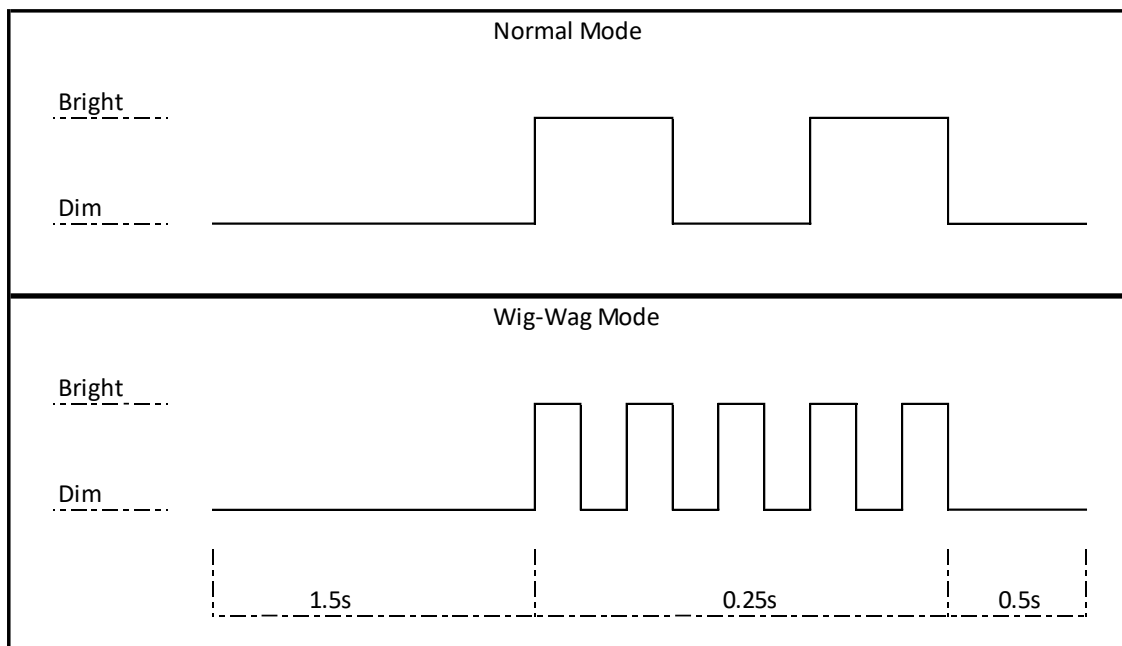

Figure 3 – Differences in Confirmation Flashes between Normal Mode and Wig-Wag Mode
- The K30 will display one of the confirmation flashes as shown in Figure 3 to indicate it is entering the Flash Pattern Selection mode
- The K30 will display the Normal Mode confirmation flash as shown in Figure 3
- The K30 will display the Wig-Wag Mode confirmation flash as shown in Figure 3
Figure 3 illustrates the difference in the confirmation flash between Normal Mode and Wig-Wag mode – not drawn to scale. The confirmation flash can be seen when entering or exiting the Flash Pattern Selection Mode, or when the Wig-Wag Mode is changed. The different confirmation flashes allow the user to tell whether the light is in Normal Mode or Wig-Wag Mode independently of other K30s.